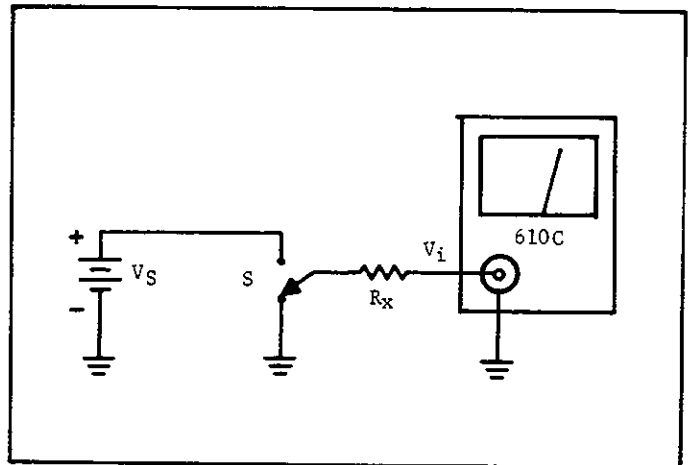

FIGURE 8. Resistance Measurements.
**c. Volt-Ampere Resistance Measurements.** This method is useful when the voltage drop across the unknown resistance must be accurately controlled. For this measurement the 610C is used in the NORMAL mode with the RANGE switch set to AMPERES. The circuit connections are shown in Figure 8. To determine the resistance the Multiplier setting should be subtracted from the voltage source setting. The resistance is therefore the ratio of the net voltage divided by the current measured by the 610C.